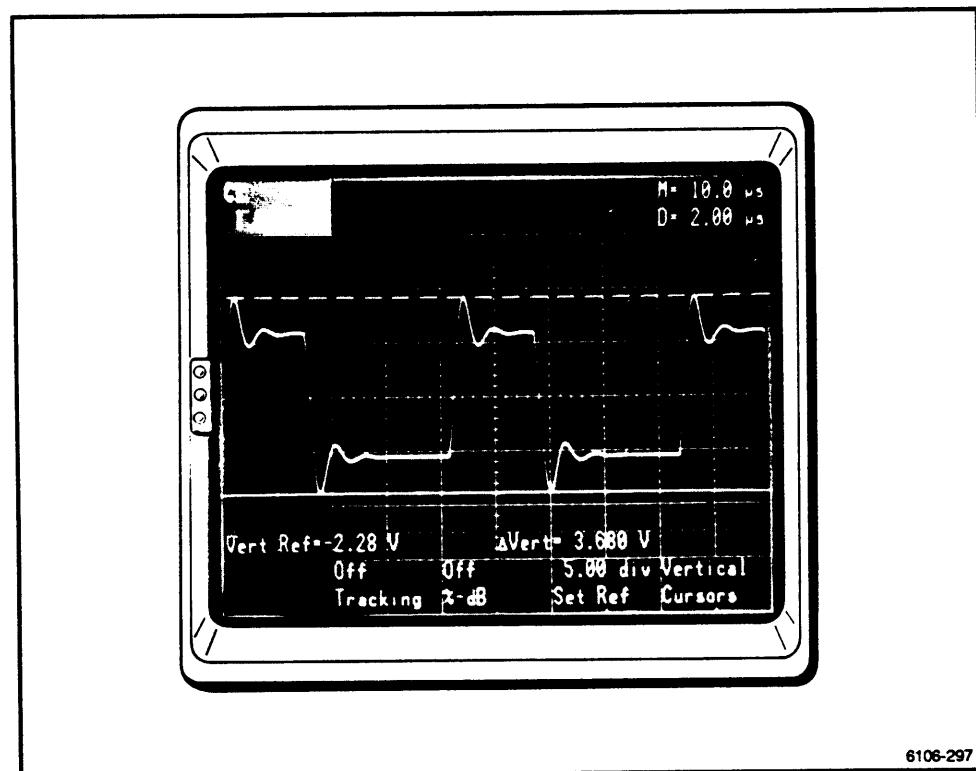

Figure 2-98. Cursors set to peaks of displayed waveform, and p-p voltage (ΔV).
7. The p-p voltage value will appear as ΔV ert toward the lower right of the crt. (See Fig. 2-98.)